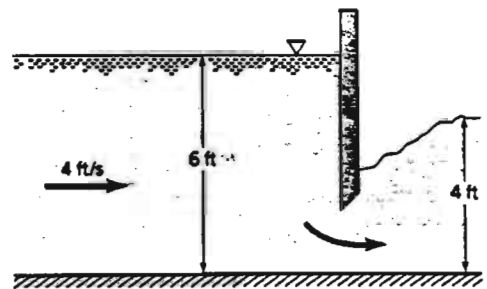

FIGURE P5.50
5.50 Determine the magnitude of the horizontal component of the anchoring force per unit width required to hold in place the sluice gate shown in Fig. P5.50. Compare this result with the size of the horizontal component of the anchoring force required to hold in place the sluice gate when it is closed and the depth of water upstream is 6 ft.